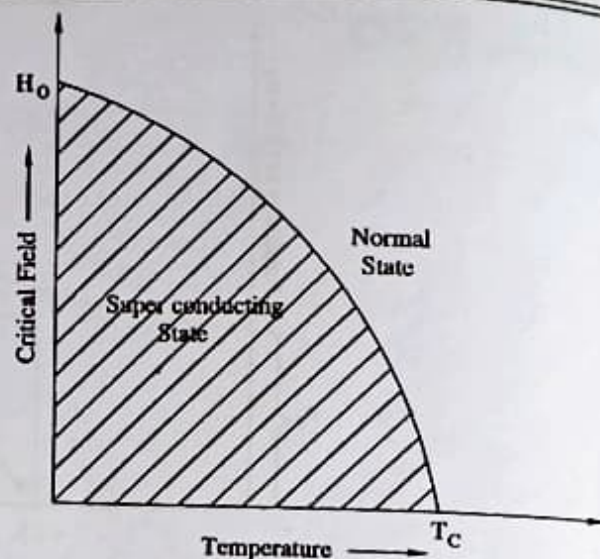

FIG. 5.2
- Fig. 5.2 gives the graphs of H_c versus temperature (K).